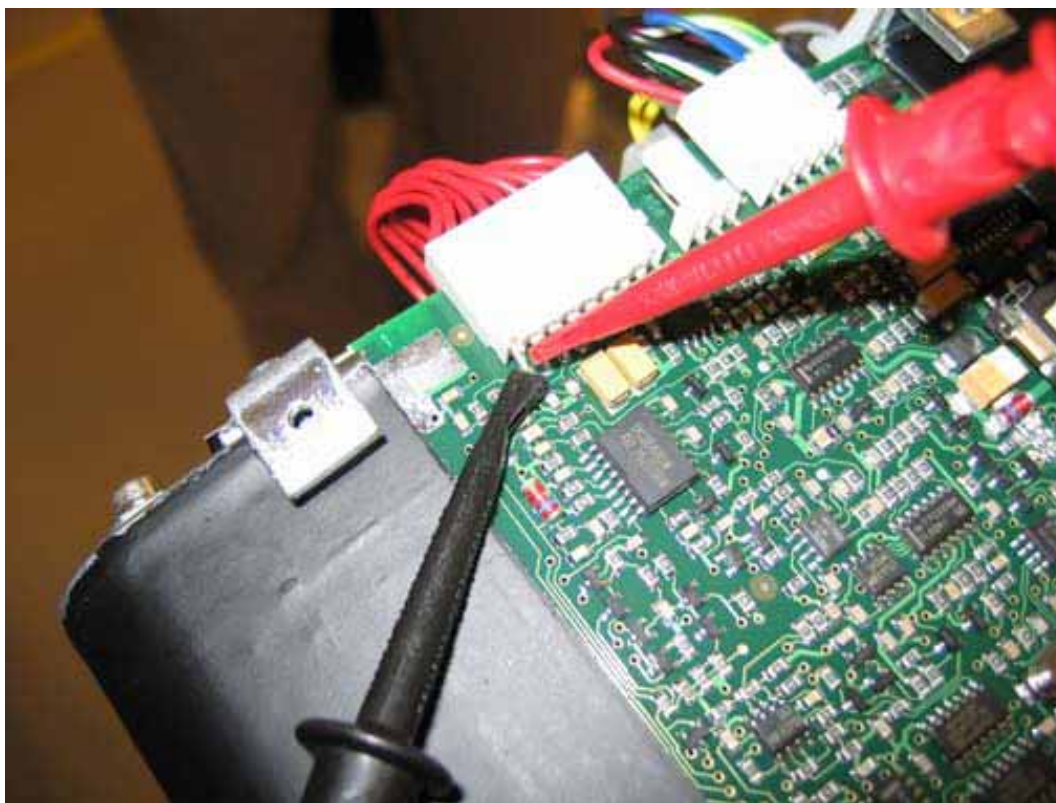

Figure 5
4. Attach sprung hook test leads from multimeter to P1-connector pins 1 (negative kV) and 2 (positive kV) in the tube head PCB. See figure 5.